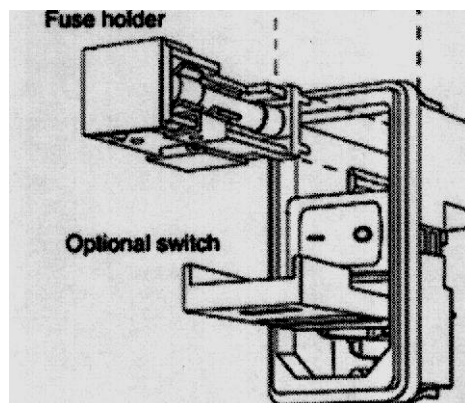

Figure 5-2: Removing Fuse Block from Housing
1. Place small screwdriver in notch, and pry cover off, as shown in Figure 5-2. Remove fuse holder.